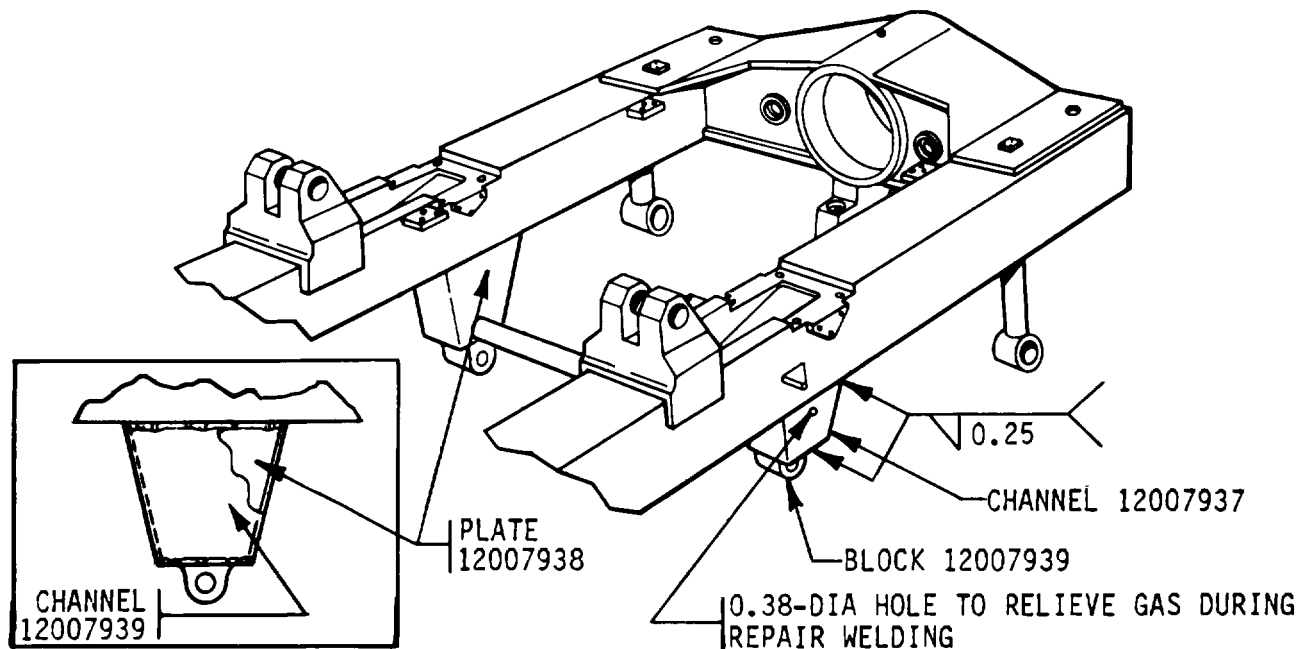

Figure 1. General areas for repair welding.
Refer to figures 1 thru 4 for repair weld requirements.
(1) Make one pass on channel (12007937) to block (12007939) on the sides.
(2) Make one pass on plate (12007938) to channel (12007937) the width of plate.
(3) Make one pass on the channel (12007937) on all three sides.
a. Repair to cracks occurring in welds joining block (12007939) to channel (12007937) and channel (12007937) to plate (12007938) will be made in accordance with figures 1 thru 4.